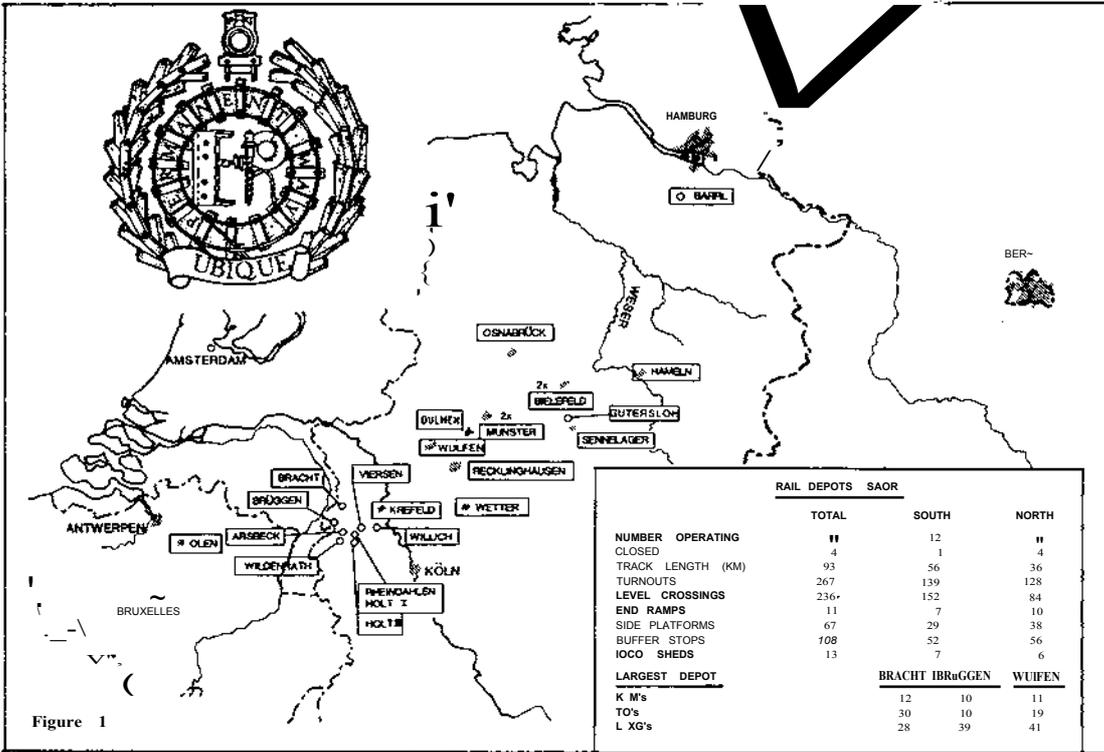

Figure 1
CONTRARY to common belief there are in fact many military rail depots in Germany (22) and Belgium (1). The track work, or to use the correct term, permanent way, within and leading to these 23 depots, for which British Forces (BF) are responsible, amounts to over 100km. The extent of depots is shown at *Figure 1*.